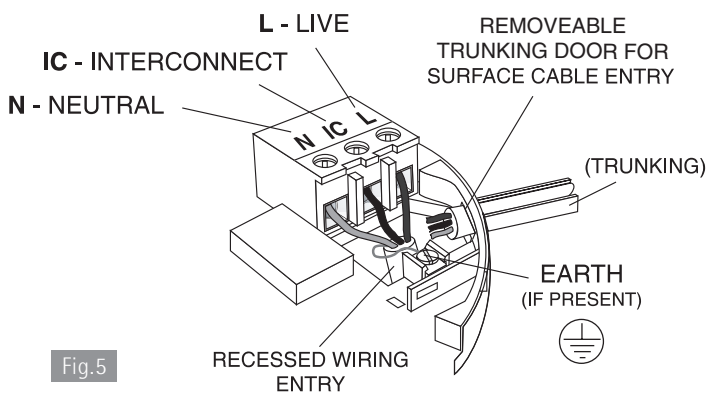

Fig.5
**IC: Interconnect** - see figures 5 and 6 and further information in Section 2.7.
**4.** If the mains wires are recessed, bring the wires through the rear hole in the mounting plate as shown in Figure 5.
- (a) position the mounting plate so the cable trunking is as shown in Figure 5.